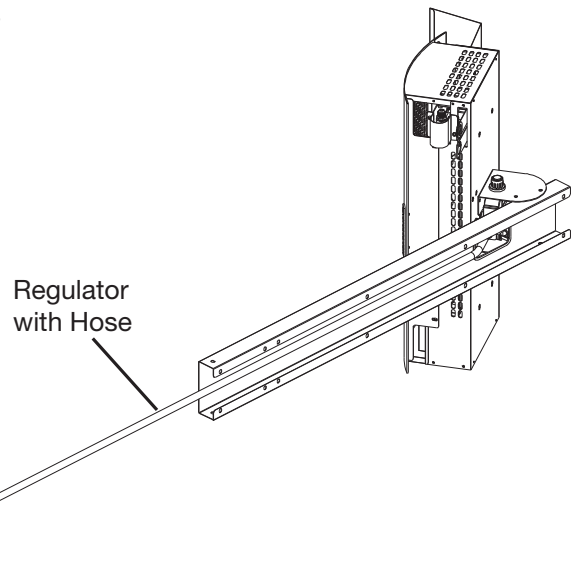

Figure 9
3. Re-install the back panel of the upper post. (Figure 9)
4. Insert the middle post in the upper post and secure it using 6 x hardware **A**. (Figure 9)